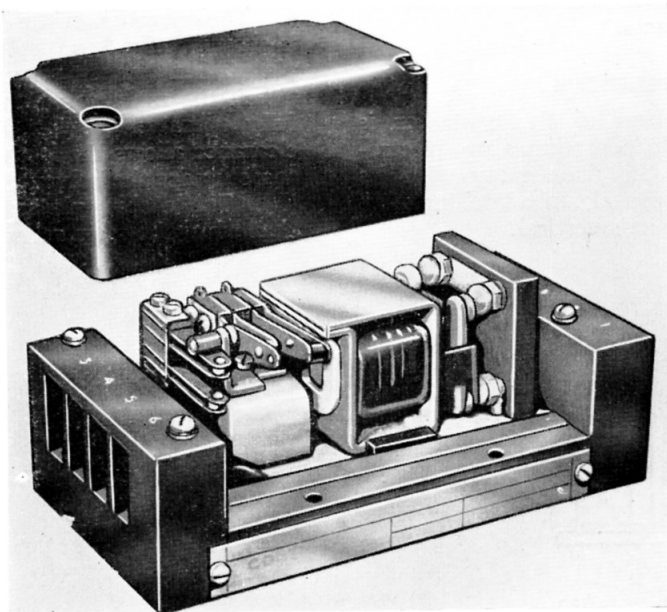

Fig. 1. Contactor, Type LDA25-A1/4
1. The contactor, Type LDA25-A1/4 (fig. 1), is a single-pole, single-throw contactor which is electrically controlled and mechanically latched. It can be operated by a remote switch, and is designed for the control of circuits carrying up to 25 amp. continuously at a nominal voltage of 112 volts d.c. Since it is latched mechanically, it is dependent on the nominal control supply of 24 volts d.c. only during the moment of opening or closing of the main contacts.